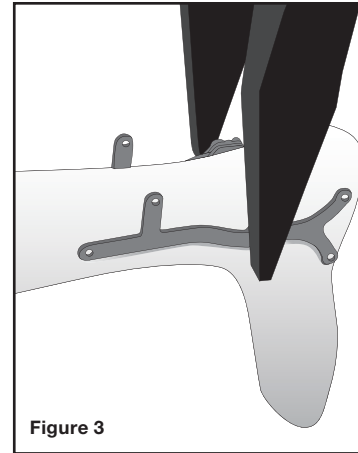

Figure 3
1. Contour proximal uprights and "AP Stabilizer Tab" to positive model. See Figure 3.